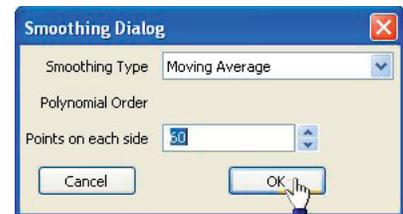

Fig. 50—(Right) Smoothing dialog box
5. If desired, additional smoothing can also be added to the filtered data. Click the **Add Function** button of the desired channel and select **Smoothing (Left)**. The **Smoothing** dialog box appears (Fig. 50). WPI often adds a moving average that is 60 points on each side, by selecting **Moving Average** from the **Smoothing Type** drop down list and entering 60 in the **Points on each side** text field. Click the **OK** button when finished.